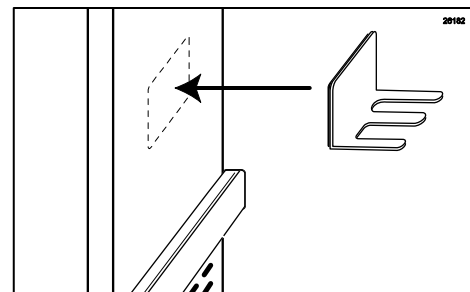

Figure 149
- Mount the Bracket to the desired area on the freezer. (See Figure 149.)